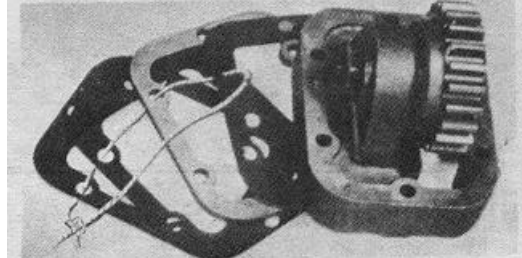

Fig. 15
2. After checking for proper backlash remove the adapter, gaskets and filler block (if required) from the transmission. Keep the gaskets and filler block as a "package" (See Fig.15.)